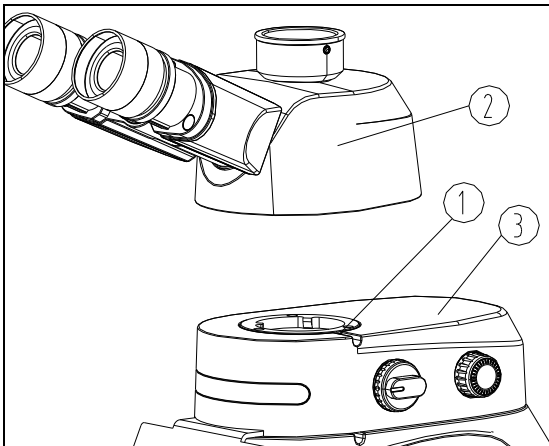

Fig. 31
4. Put the dovetail interface at the bottom of the binocular/ trinocular observation head ② into the interface on the LED fluorescent illuminator ③ interface seat, and tighten the locking screw ① with the hex wrench. (See Fig. 31)